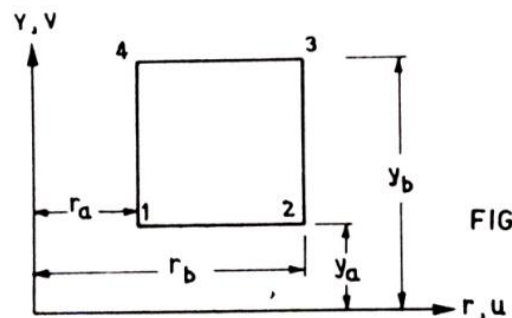

Figure 5
6. Figure 5 shows the rectangular cross section of a ring finite element for the analysis of axisymmetric solid. The element has four nodes with two degrees of freedom (u, v) at each node. Outline the development of the stiffness matrix for this element giving details of B. [15]